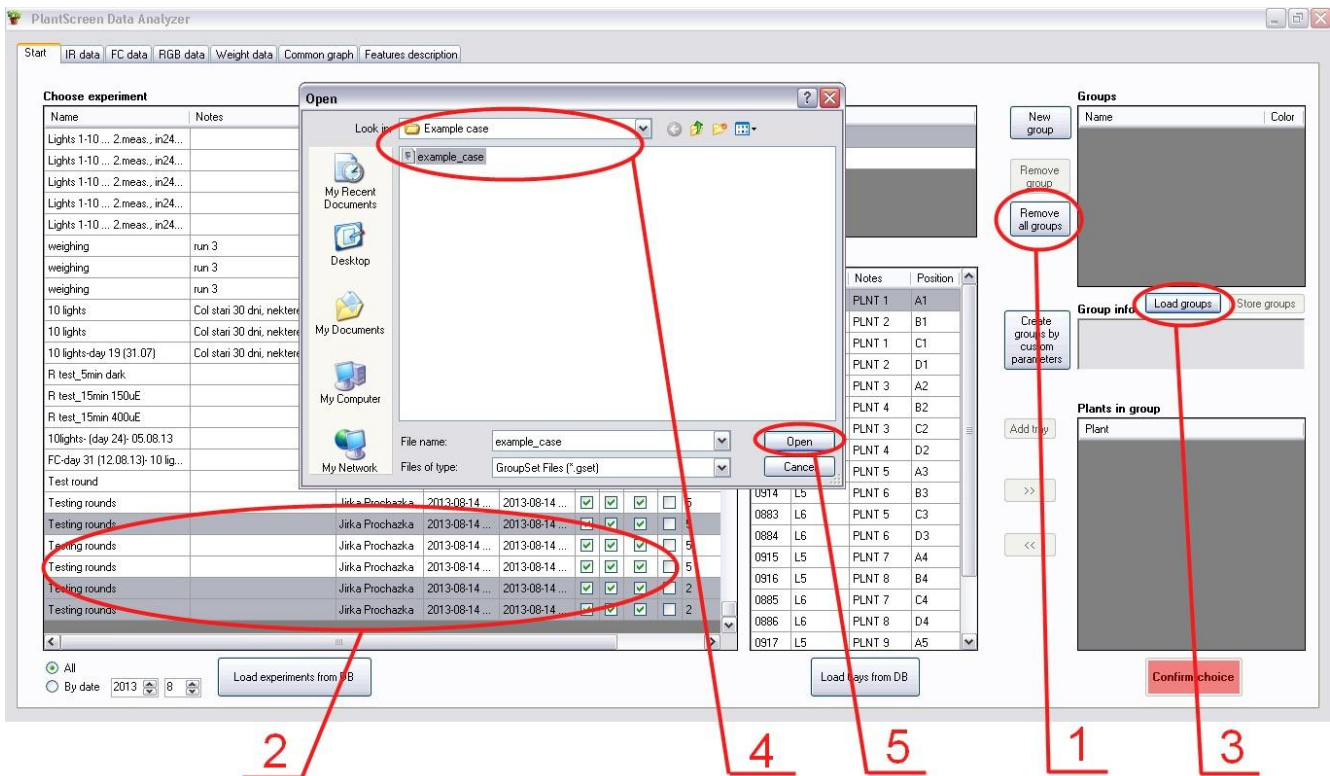

Fig. 22
- Stay in the tab “Start” (Fig. 22)
- o Remove all the created groups (Fig. 22, 1)
- o Select all wanted experiments (Fig. 22, 2)
- o Click the button “Load groups” (Fig. 22, 3)
- o Find and select the file with the stored group set (Fig. 22, 4)
- o Click the button “Open” (Fig. 22, 5)